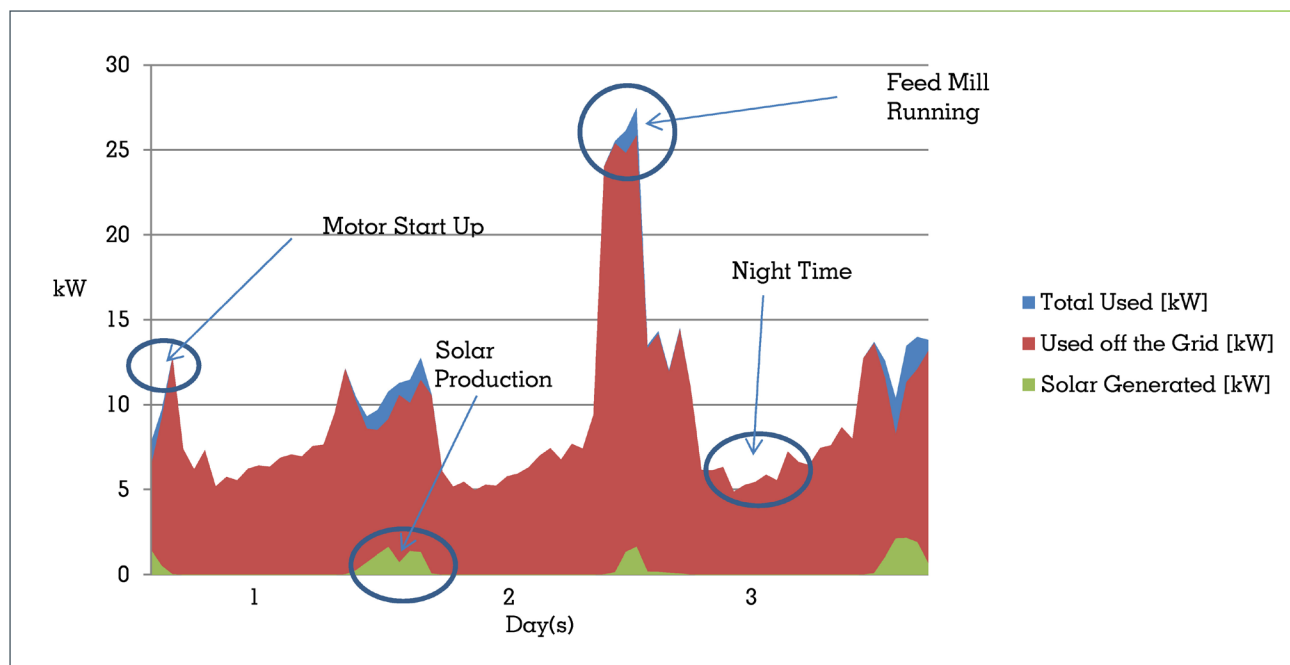

Figure 2. Submeter Readout for a three day period at Hog Barn
- Logging meters - these have logging capabilities where the data can be collected and analyzed. They may or may not have a display. These typically require a PC and additional software in order to view the logged data collected. Some are compatible with programs like Microsoft Excel. They have an output port where the data can be viewed live or collected after being logged. These may require some programming (Figure 2).